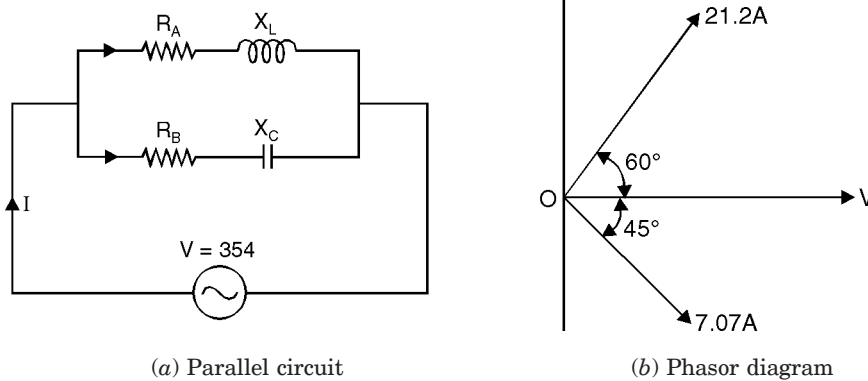

Fig. 62
- i_A lags the voltage by $\pi/4$ radian or 45° and i_B leads it by $\pi/3$ radian or 60° . Hence branch A consists of a resistance in series with a pure inductive reactance. Branch B consists of a resistance in series with a pure capacitive reactance as shown in Fig. 62
As seen from the vector diagram [Fig. 62 (b)],